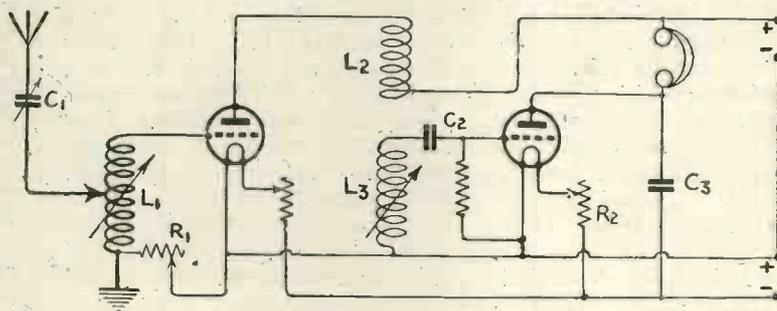

Fig. 1.—The Grebe C.R. 13 circuit.
**A** VERY interesting new receiver known as the Grebe C.R. 13, manufactured by Messrs. A. H. Grebe & Co., has recently been placed on the American market. It is one of the few receivers specifically designed for short-wave amateur use, and not for the more popular broadcast band of wavelengths. It includes one stage of high-frequency, followed by a detector valve, it being optional to add stages of note-magnification if required. The actual circuit is shown in Fig. 1. Its main points of interest are as follows:—